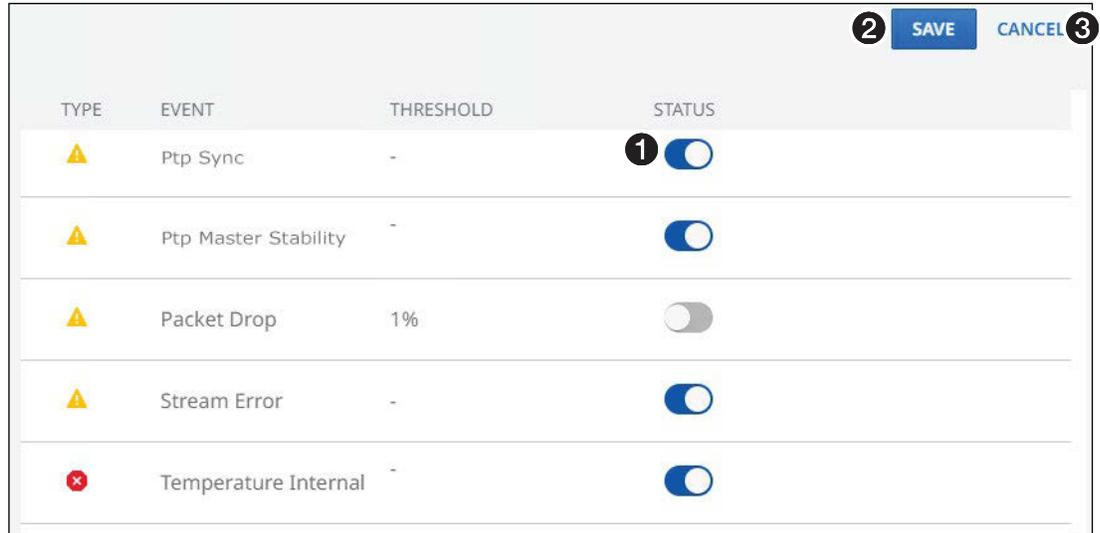

Figure 35. Edit Alarm Settings Dialog Box
1. Click **ALARM SETTINGS** (see figure 34, 5 on page 36). The Edit Alarms Settings dialog box opens (see figure 35).